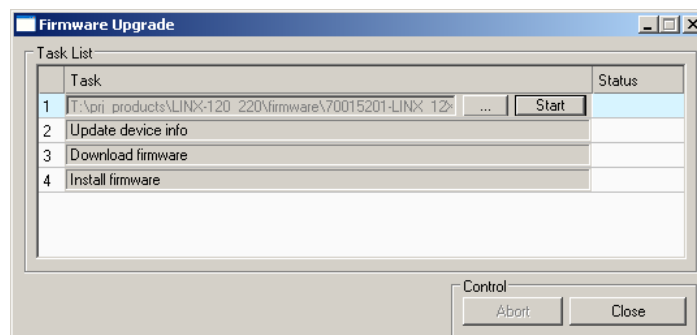

Figure 77: Firmware Update dialog of the Configurator.
8. This opens the **Firmware Update** dialog as shown in Figure 77. Click on the button  and select the firmware image.